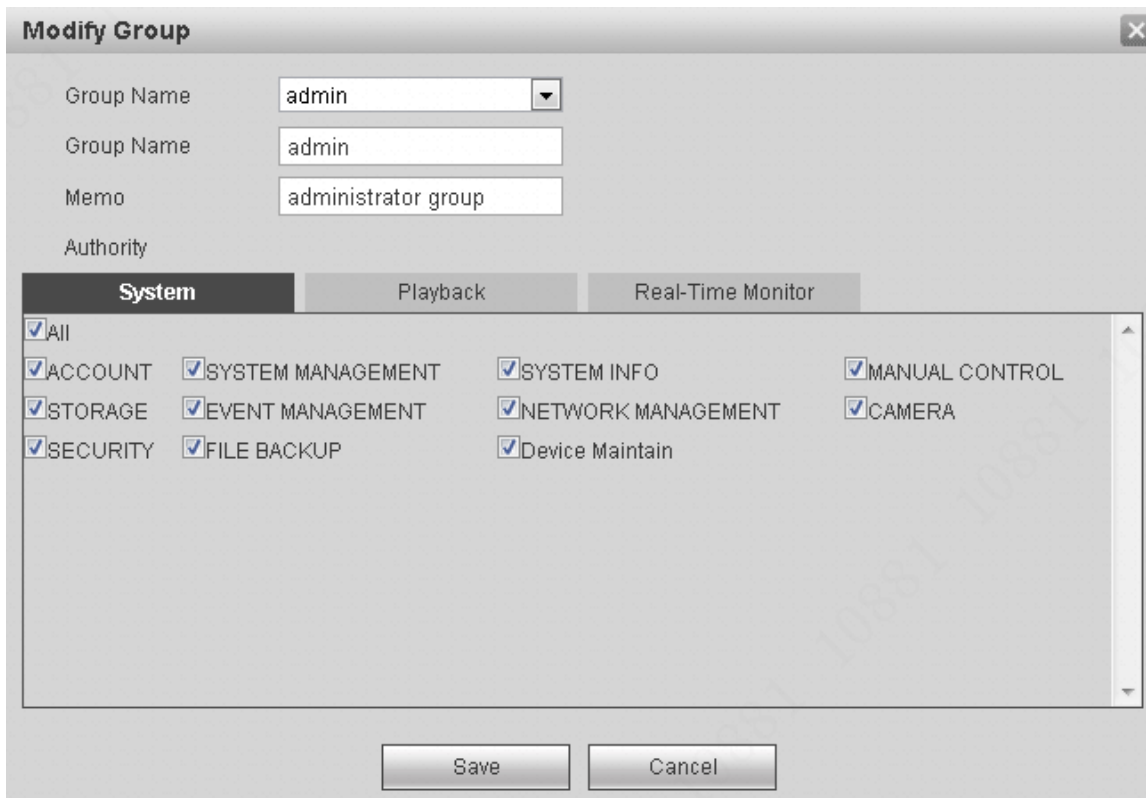

Figure 5-91
Step 1 Select a group and then click . See Figure 5-91.